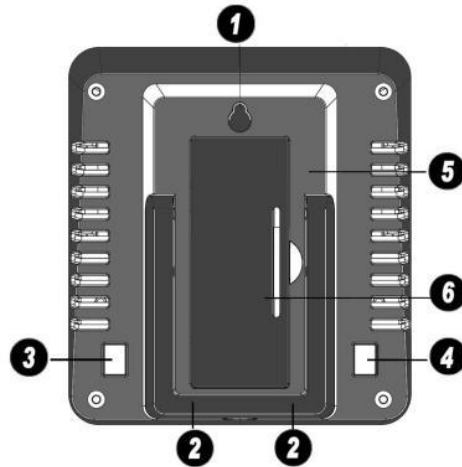

Figure 2
2. Remove the battery door on the back of the display, as shown in Figure 2. Insert one AA (alkaline or lithium, avoid rechargeable) battery in the back of the display console.